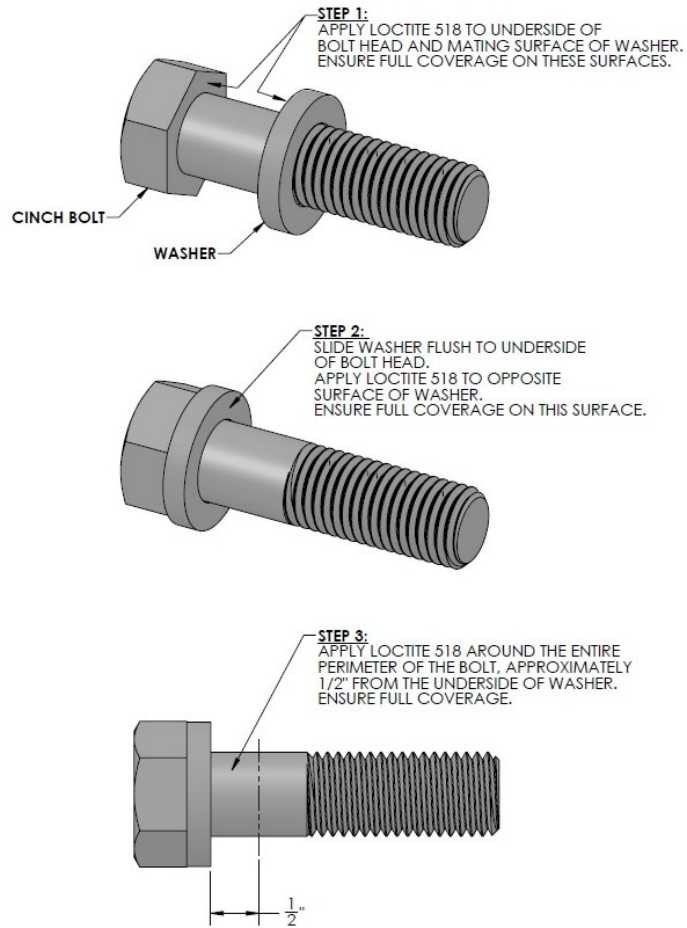

Figure 32 – Cinch Bolt Sealant
- For cinch bolts that don't have an O-ring, refer to Figure 32 for sealing. See Table 5 for torque values.